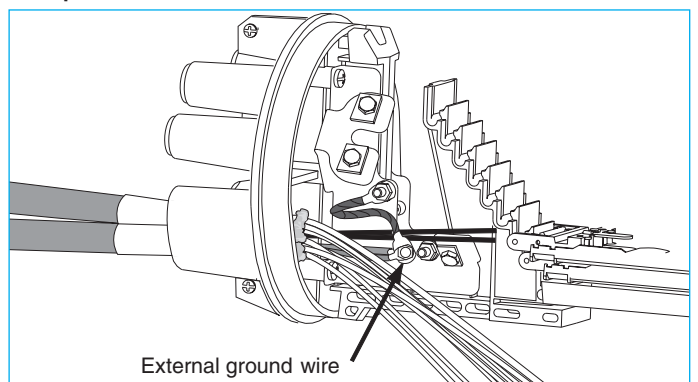

Figure 16.
- For common grounding, one feed through lugs is used and bonded to the metal tray bracket. Then cable shield is bonded to the metal tray bracket. See Figure 16. Remove one of the wires from unused grounding stud. Secure the wire to the metal tray bracket. Bond oval port cables to the wire. Bond round port cable using square washer.
- Grounding using the FOSC-ACC-Fiber Ext Grnd Kit (common or isolated grounding) (Figure 16)